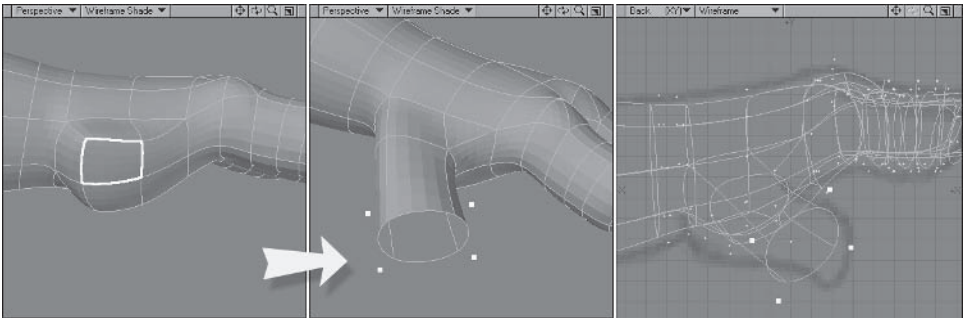

Figure 5.4-42. Extending the thumb.
13. Now with the fingers created we can create the thumb. Select the polygon shown in Figure 5.4-42 and delete it. Select the four open points and **Extend**, moving the points to match Figure 5.4-42.